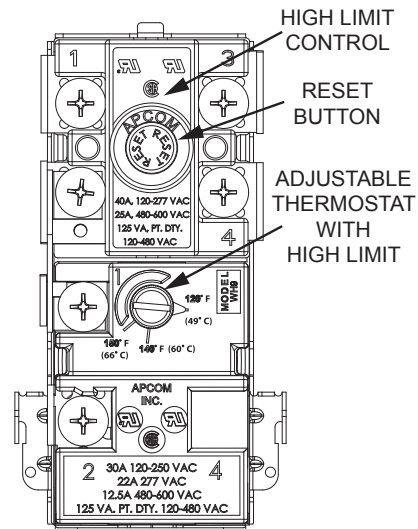

Figure 8.
**HOTTER WATER CAN SCALD:** Solar water heaters are intended to produce hot water. Water heated to a temperature which will satisfy clothes washing, dish washing, and other sanitizing needs can cause scalds resulting in serious personal injury and/or death. Some people are more likely to be permanently injured by hot water than others. These include the elderly, children, the infirmed, or physically handicapped. If anyone using hot water in your home fits into one of these groups or if there is a local code or state law requiring a certain temperature water at the hot water tap, then you must take special precautions. Please see Figure 8 and Table 2 for information regarding thermostat settings. In addition to